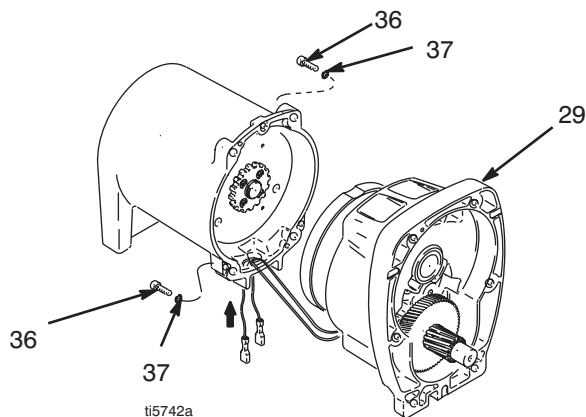

FIG. 5
4. FIG. 5. Remove four screws (36), lock washers (37) and pinion housing (29).